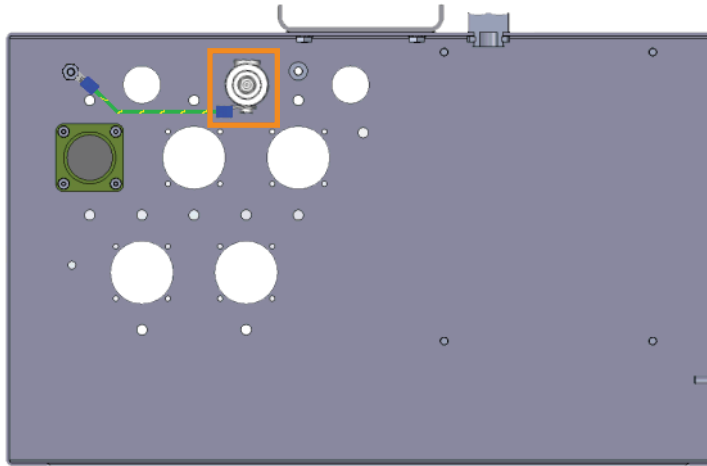

Figure 11 Connect Surge Arrestor Ground Wire
Step 16. Attach the other end of the green and yellow wire to the ground stud with the existing nut. See *Figure 11*.